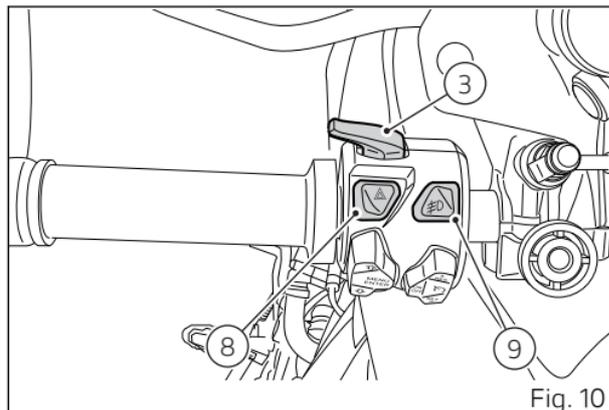

Fig. 10
3) BOUTON D'APPEL DE PHARES FLASH (Fig. 10)